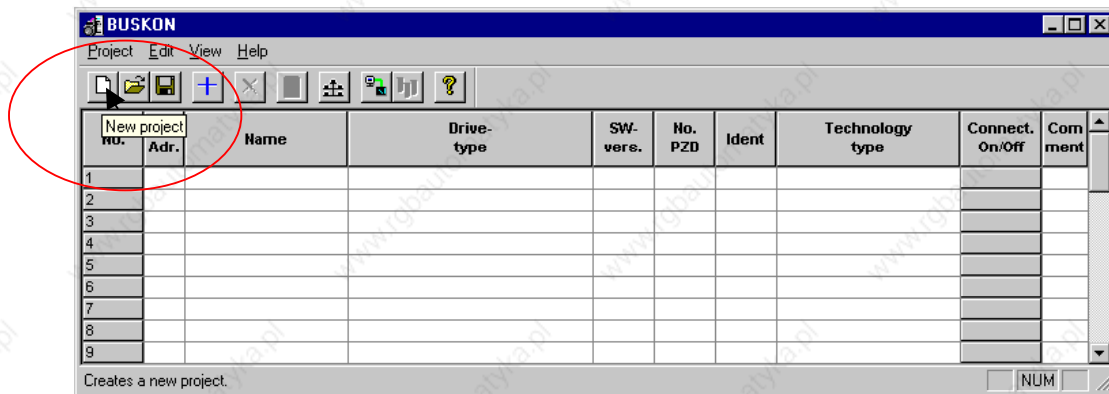

Fig. 5-8 Creating a project
- ◆ If the toolbar is being displayed, you can create a project by clicking on the button *New project* (see Fig. 5-8) or selecting the menu command *Project* → *New*.